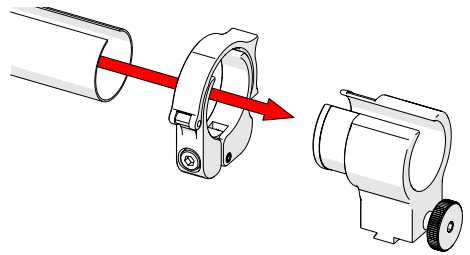

Fig. 81 - Slide tube around mount
2. Slide the clamp around the sleeving first and then slide the sleeving around the outside of the cable management dovetail mount (*Fig. 81*). Align the zipper opening and the cable management dovetail mount opening.